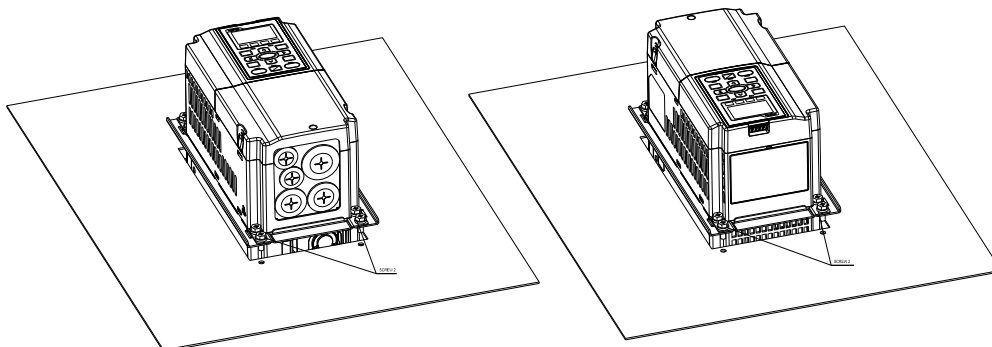

Figure 4
4. Plate installation, place 4 of the screw 2 (M6) (figure 4) through accessory 2&3 and the plate then fasten the screws. Screw torque: 25–30 kg-cm / [21.7–26 lb-in.] / [2.5–2.9 Nm]